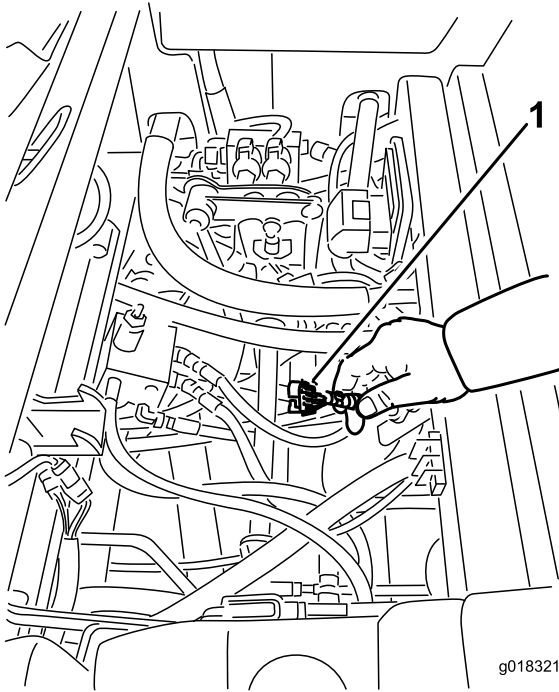

Figure 20
3. Locate the wire harness and connectors near the controller (Figure 20).